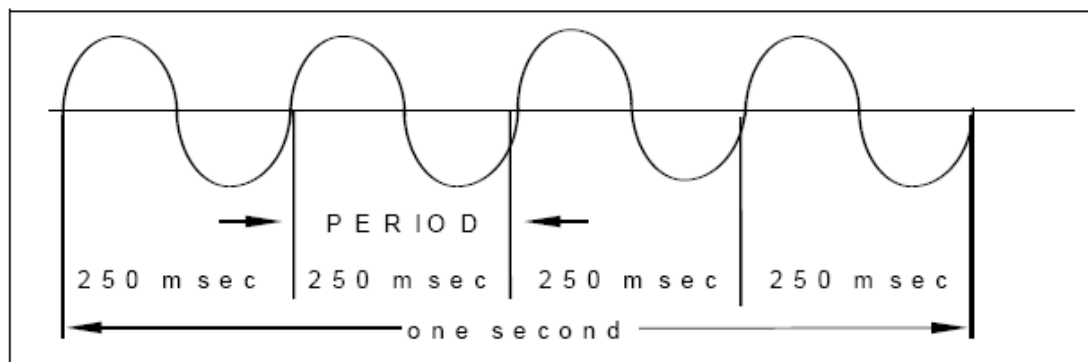

Figure 4: Measuring Period.
- The period (T) of the signal is defined as the time it takes for a signal to complete one full cycle. The period is the horizontal component of the signal, measured in units of seconds (s). In Figure 4, the period of the signal is measured as 250 milliseconds ($250.0 \times 10^{-3} \text{s}$).
- In Figure 4, above, you can see four(4) cycles occurring within one second; therefore, the signal has a frequency of 4 Hz.
- The frequency, f, of a wave is inversely related to its period (T):